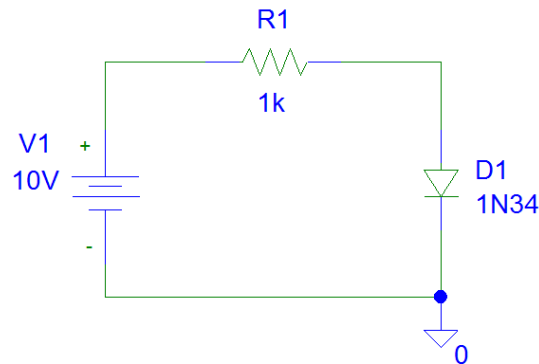

Fig.9. Biasing a germanium crystal diode from a DC voltage source
The symbol (1N34.slb) and the library (1N34.lib) should be automatically generated in the *UserLib* folder. Next step is to draw the circuit presented in Fig.9 by using the *PSpice Schematics* editor. The power source is a DC voltage source. D1 is the 1N34 germanium point-contact diode.
4. Mount a silicon diode (1N4148) in series with the germanium diode (1N34) from Fig. 9 and run the simulation again. What is the difference between the DC voltages ( $V_{A1}$ ,  $V_{A2}$ ) in forward bias on these devices?
5. Mount a silicon diode (1N4148) in parallel with the germanium diode (1N34) from Fig. 9 and run the simulation again. What is the difference between the DC anode currents ( $I_{A1}$ ,  $I_{A2}$ ) through these devices?